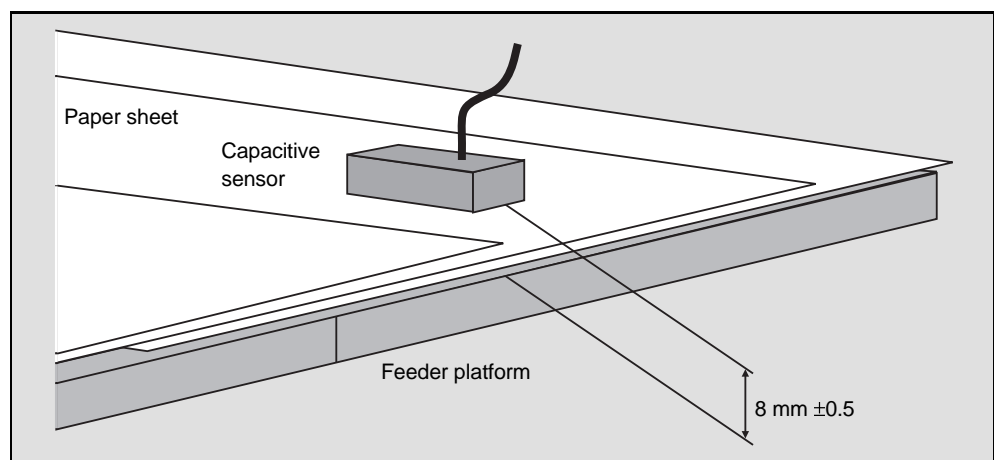

Fig. 4.3: Mounting the capacitive sensor
- ➔ Mount the capacitive sensor parallel to and  $8\text{ mm} \pm 0.5\text{ mm}$  from the feeder platform / grounding plate. It is usually not necessary to readjust the sensor - grounding plate distance afterwards. Fix a grounding plate in a non-metallic feeder platform, taking care that the sheet movement is not disturbed. (See Fig. 4.3)